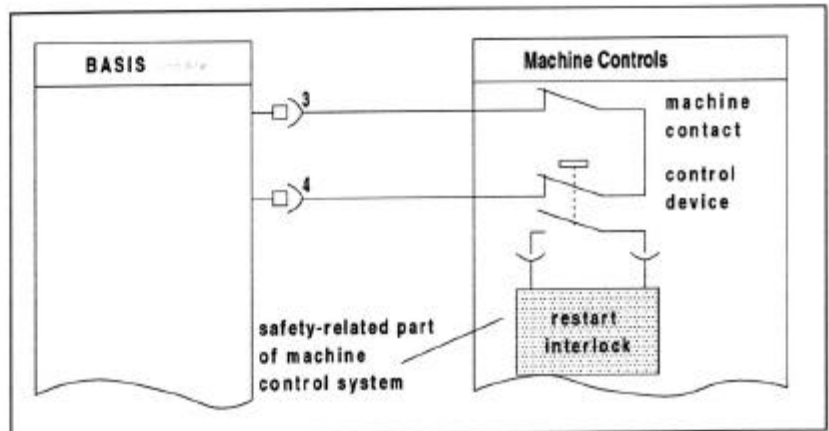

Figure 7-2 Basic circuit of test input in operating mode A and types of operation "Single break" and "Double break".
This ensures that the cycles stored in BASIS are erased even when a machine movement sequence is interrupted by an "intervention" (Figure 7-2).
- If required, connect test or cycle input to a contact of the machine controls (for information see Chapters 2.2.4 and 2.2.6 and Chapter 7.1, Figure 7-2).